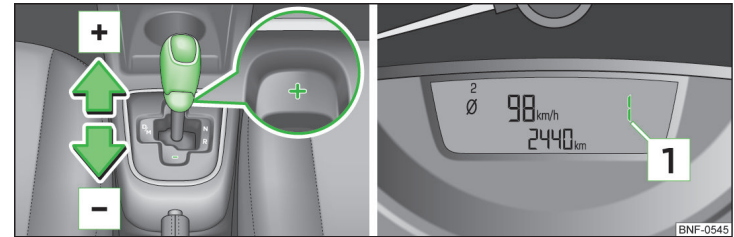

Fig. 82 Selector lever: manual shifting/information display
- » Press the selector lever towards the left in the spring-tensioned position in the direction of the arrow and set in position **M**. The selector lever position you have engaged appears in the instrument cluster display  » Fig. 82 .
- » Press the selector lever forwards  » Fig. 82 .
- » Press the selector lever backwards  » Fig. 82 .